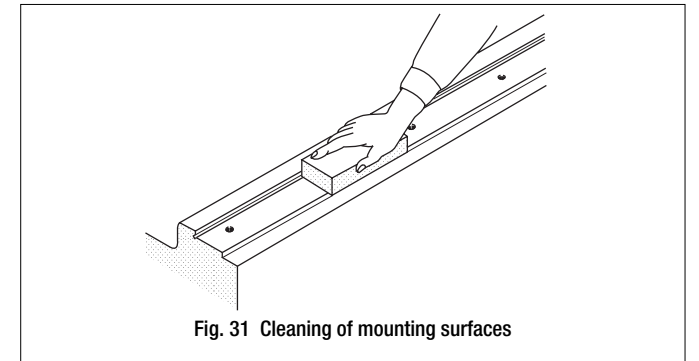

Fig. 31 Cleaning of mounting surfaces
- Remove burrs and blemishes from mounting surfaces and reference mounting surfaces of the machine using an oil-stone, etc., and then wipe the surfaces with clean cloth. (See Fig. 31.)